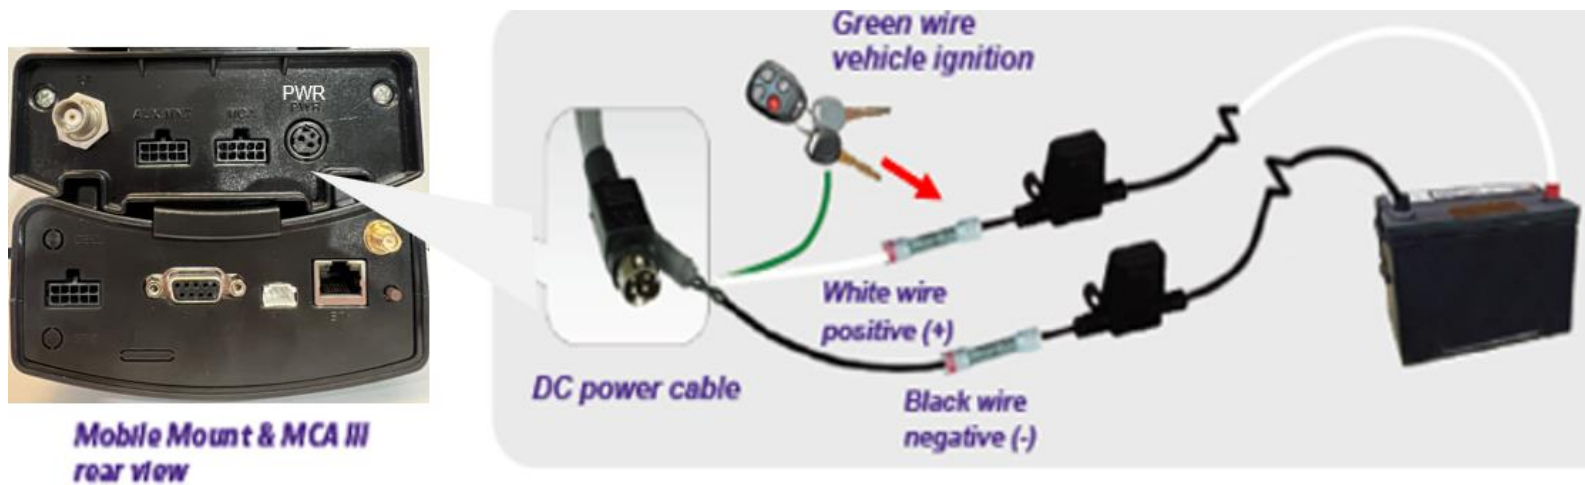

Figure 1: Powering the Mobile Mount
- Use the provided in-line fuse holders to wire the **white** and **black** DC power cables to the vehicle battery as shown in figure 1